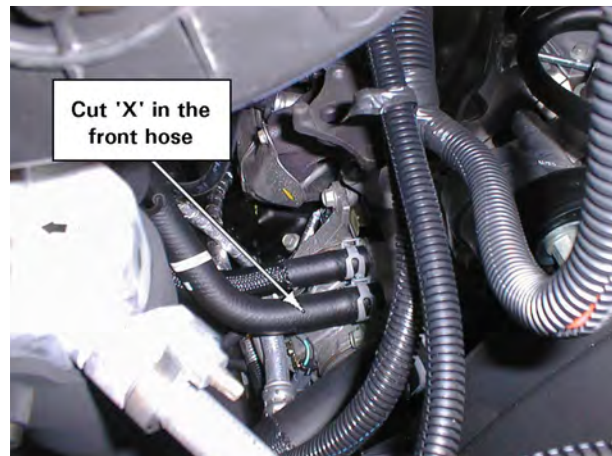

Figure 23. Cut Small 'x' in Water Pump Hose
- a. One method for recapturing the antifreeze is to insert a hose barb into the water pump hose to drain the coolant. This can be done by cutting a small 'x' in the $\frac{3}{4}$ " water pump hose approximately 2.5" from the water pump housing. It is located on the passenger side of the water pump and thermostat housing (see Figure 23).